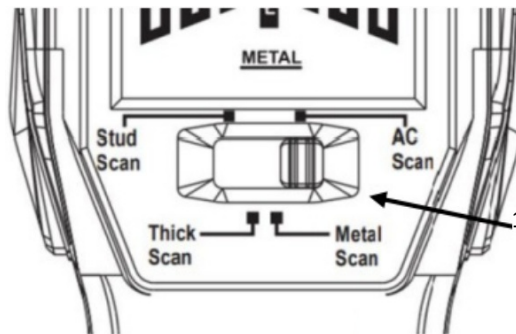

Figure 8
- Select detecting mode, move the switch to AC Scan (Figure 8)